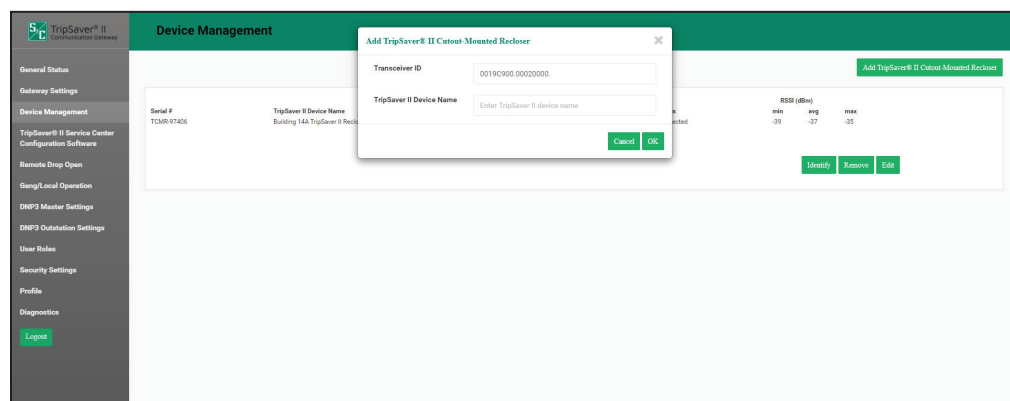

Figure 7. The *Device Management* screen.
- STEP 3.** Navigate to the *Device Management* screen. See Figure 7.